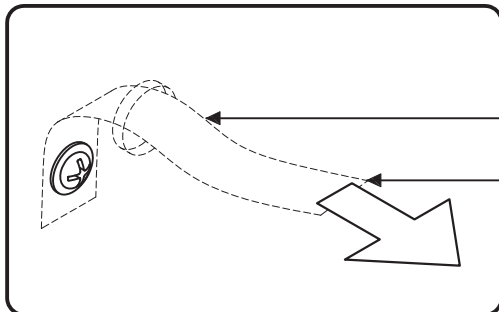

Figure 6
Move unit back into place and insert Tipover Restraint into unit through hole in Back Panel (E). (See Figure 6)